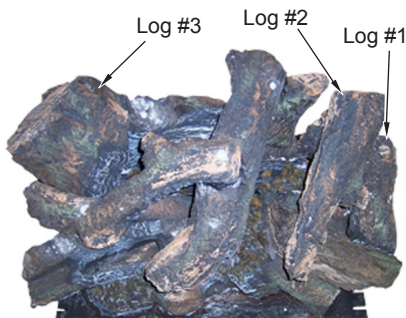

Figure 25 - Installing Loose Logs
2. For 36" models only, install 3 loose logs by placing log #1, log #2 and log #3 onto one piece log as shown in Figure 25.
5. For 36" models only, remove 3 loose logs from log set (see Figure 25 page 20).